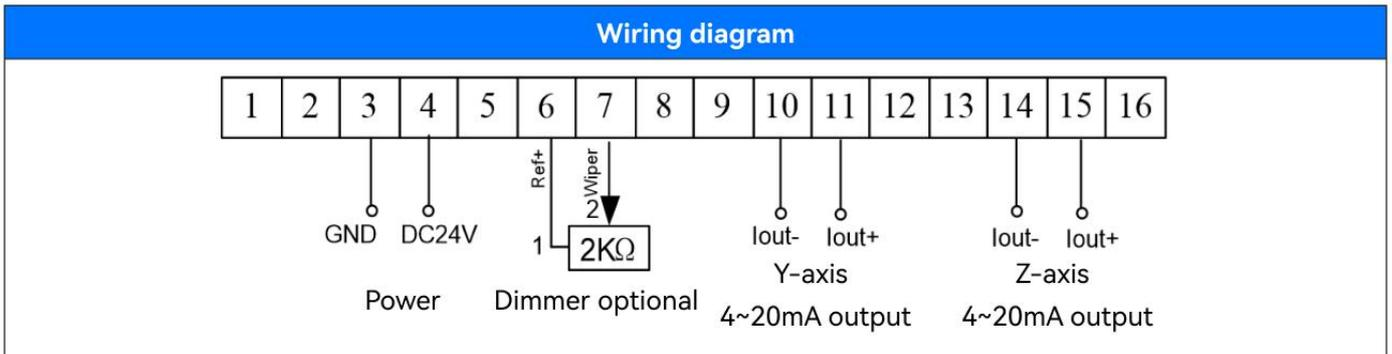

Figure 1.5
The product provides 16 terminals, using DC24 power supply separately, Y axis and Z axis each output 1 4~20mA current signal, with 1 potentiometer dimming interface (if not dimming, can not be connected). The wiring diagram is shown in Figure 1.5:
2. Switch on the power supply, connect the cable as shown in Figure 1.5, push the handle lever, and the resistance reading between the identification number 10 and 11 is the output value of continuous linear change from 4 to 20mA. The red 100% scale corresponds to 4mA, and the green 100% scale corresponds to 20mA. Rotate the handle rod, the resistance reading between the identification number 14 and 15 is the output value of 4 ~ 20mA continuous linear change, the counterclockwise rotation current decreases, the output is 4mA when it is rotated to  $180^\circ$ , the clockwise rotation current increases, the output is 20mA when it is rotated to  $180^\circ$ ; The backlight emits normally. After the inspection is complete, place the handle lever at 0 scale.
4. According to the characteristics of the accessories used in this product, the instantaneous input voltage shall not exceed 20% of the range specified in Figure 1.5 at any time. Avoid excessive instantaneous current and burning accessories.